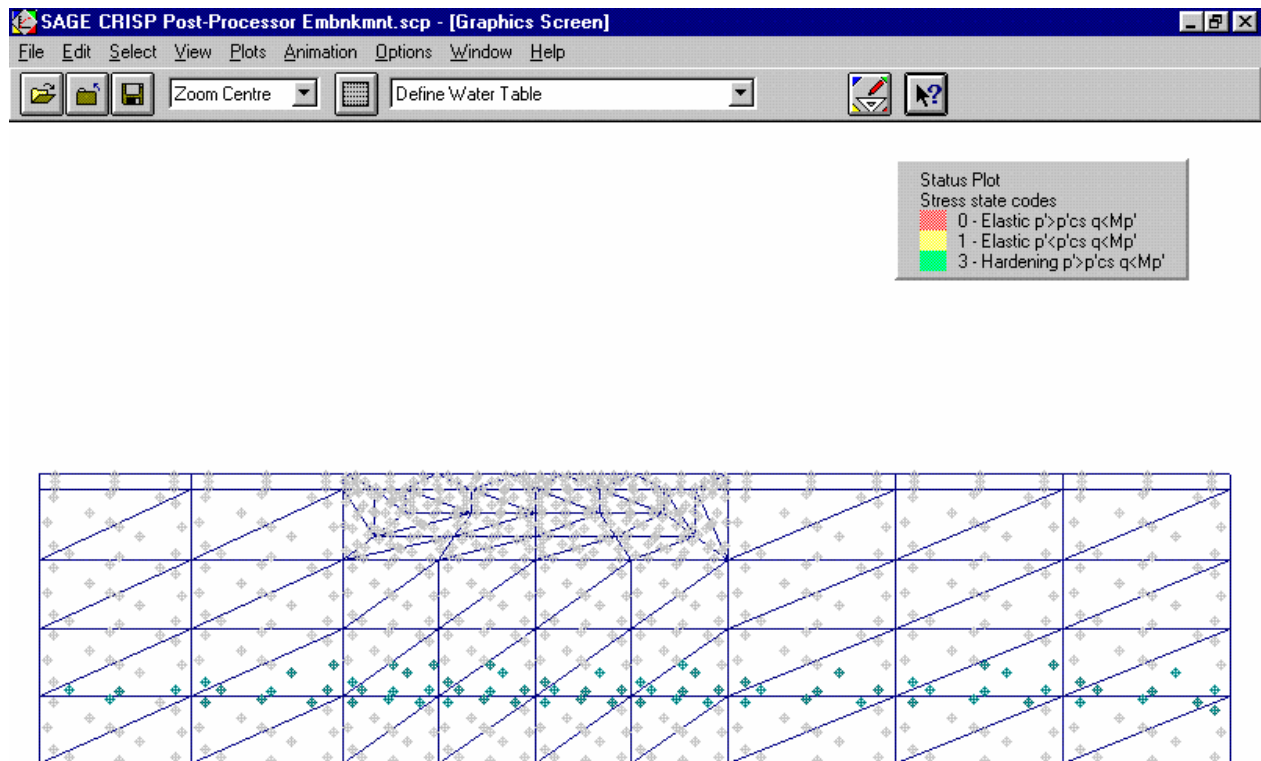

Figure 6-43: Stress State Code Plot for Increment 1
- Step 9** In the View menu, click on Legend. The Graphics Window should now look similar to Figure 6-43. If the colour scheme is not clear, you can change it by going back into the Status Plot dialogue box, selecting the plot from the **Plot Name** list and clicking on the **Colour** button. This displays the Stress State Colours dialogue box which allows you to change the colour used to represent each stress state.
- Step 11** Any anomalies at this stage are caused by numerical conditions- in Figure 6-43, a row of integration points undergoing strain hardening can be seen close to the bottom of the mesh. If this is a cause for concern, it can be easily remedied by using a slightly finer mesh and re-running the analysis.